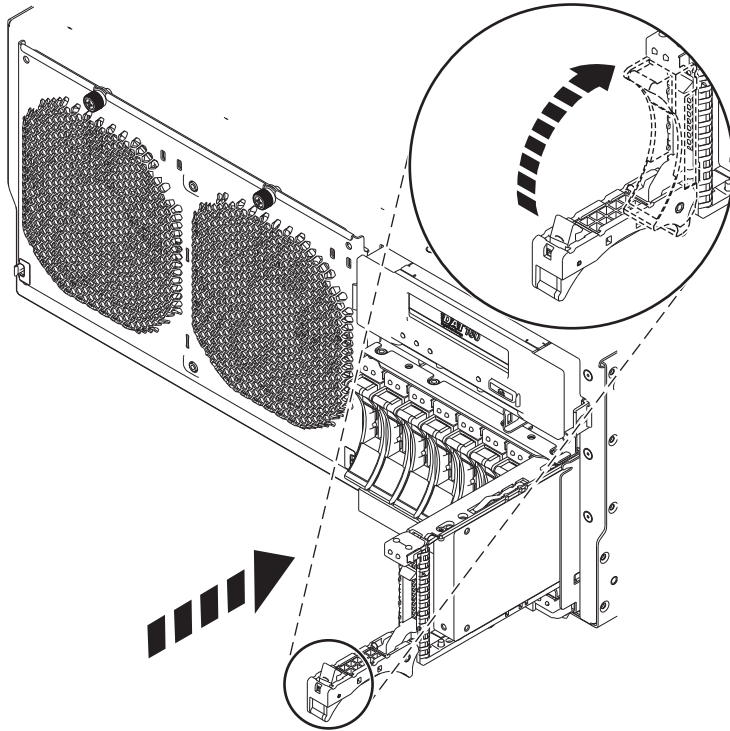

Figure 8. Installing the disk drive into the 8202-E4B, 8202-E4C, 8205-E6B, or 8205-E6C
- Slide the disk drive all the way into the system or expansion unit, and push the disk drive handle (A) in until it locks, as shown in Figure 8. The service indicator on the disk drive turns on.